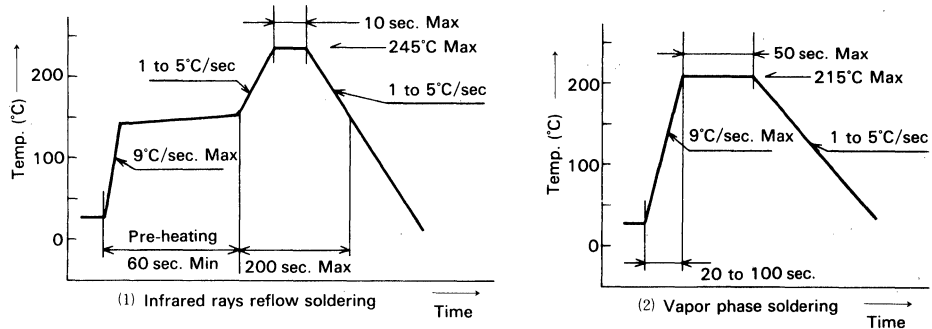

Fig. 3-6 Reflow Furnace Temperature Curve
- (1) Maintain the maximum temperature of the resin of the package at 245°C for not more than 10 seconds.
- (2) Maintain the outer surface of the reflow furnace temperature (resin surface temperature) at the curve shown in Fig. 3-6.
- (3) The resin on plastic flat packages is prone to absorb moisture. Even at room temperature, the amount of moisture absorbed increases with time. If a wet package is put in the solder-reflow furnace, the resin may crack or the adhesiveness of the resin to the frame may be decreased.
- (4) Items (1) through (3) are intended as a guideline based on our laboratory experience and are for reference only since packages will be stored in different environments and different types of reflow furnaces will be used. Thus, it is important that packages be checked for quality at the solder-reflow process before entering mass production.